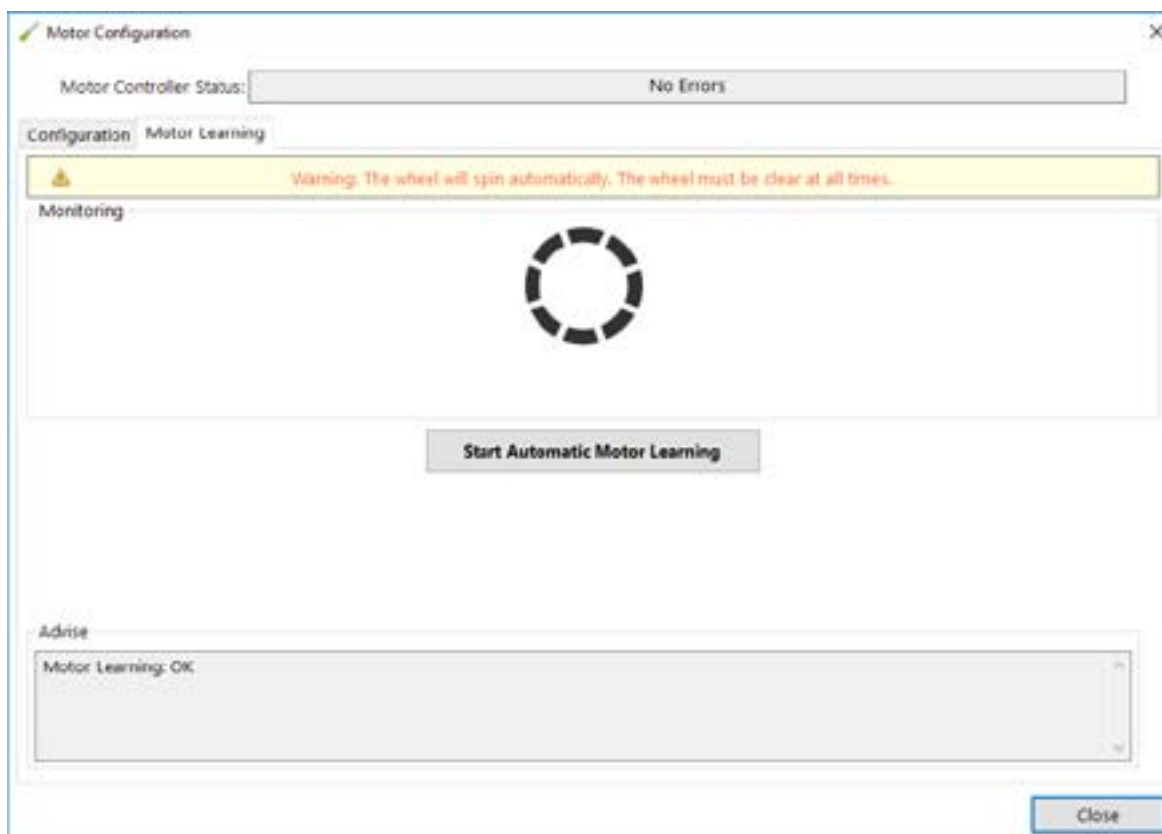

Figure 3.44 Motor learning – Successful completion
a) The wheel will begin spinning from slow speeds to higher speeds. Motor learning is complete so long as no error occurs (Fig. 3.44).